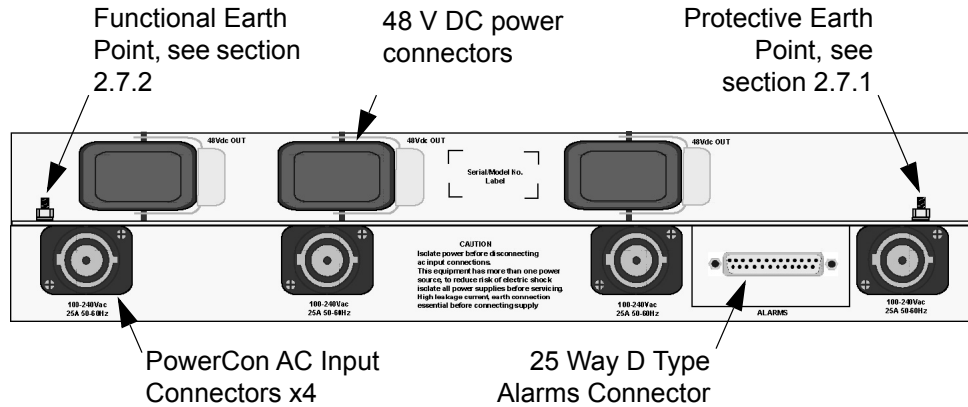

Figure 1 Power Supply Shelf Rear Panel
- The Protective earth is indicated on the power supply shelf by this symbol:  (located on the right side of the power supply shelf, see Figure 1).
- The Functional Earth on the power supply shelf is indicated by this symbol:  (located on the left side of the power supply shelf, see Figure 1).